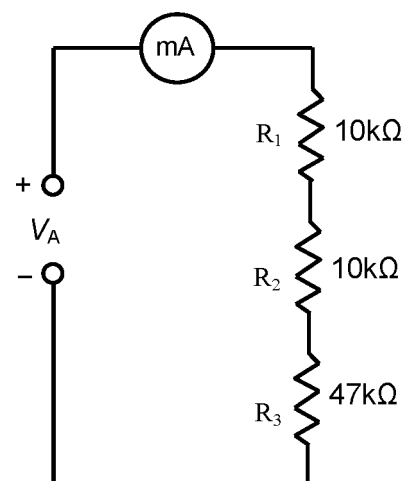

Figure 14-1
1. Connect the initial circuit as shown in Figure 14-1.